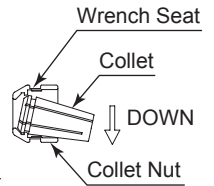

Fig. 6
- ② The collet and collet nut are secured by a groove in the collet and a flange in the collet nut. To remove the collet hold the collet nut in one hand and push diagonally down on the collet. The collet should be released (Fig. 6).